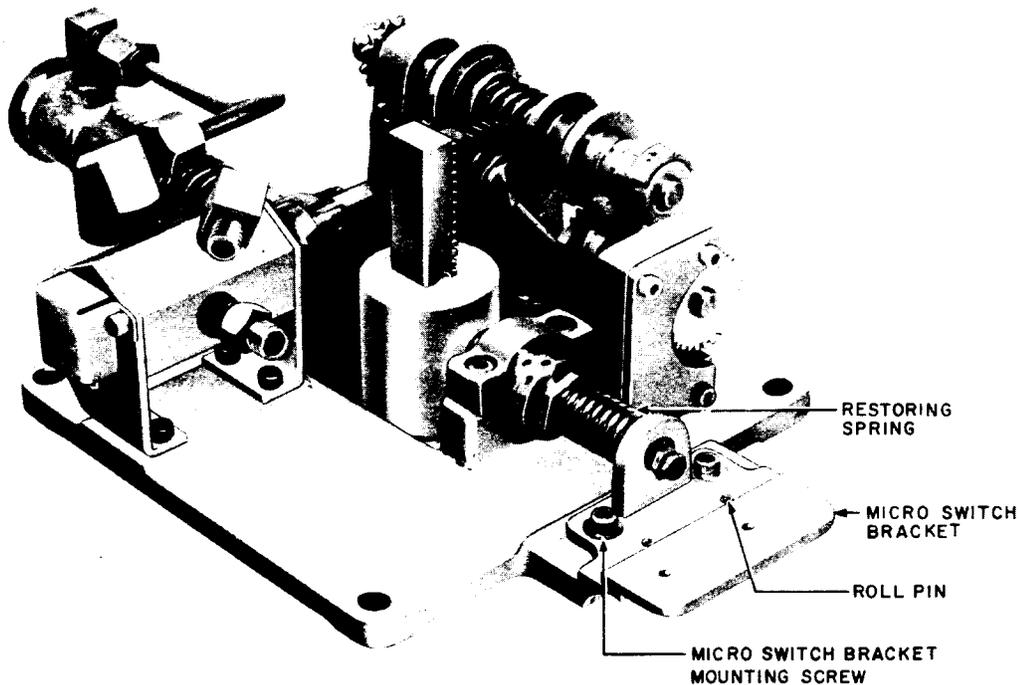

Fig. 7 — Tab-Clipping Control Unit Removed From Tool
6.05 Referring to Fig. 7, remove the Micro Switch mounting bracket screws using the R-2485 wrench. Remove the bracket. If difficulty is experienced in removing the bracket, drive the two roll pins securing the bracket through the bracket into the control unit casting using the 1/8-inch drive pin punch and 4-ounce riveting hammer. Remove the restoring spring.